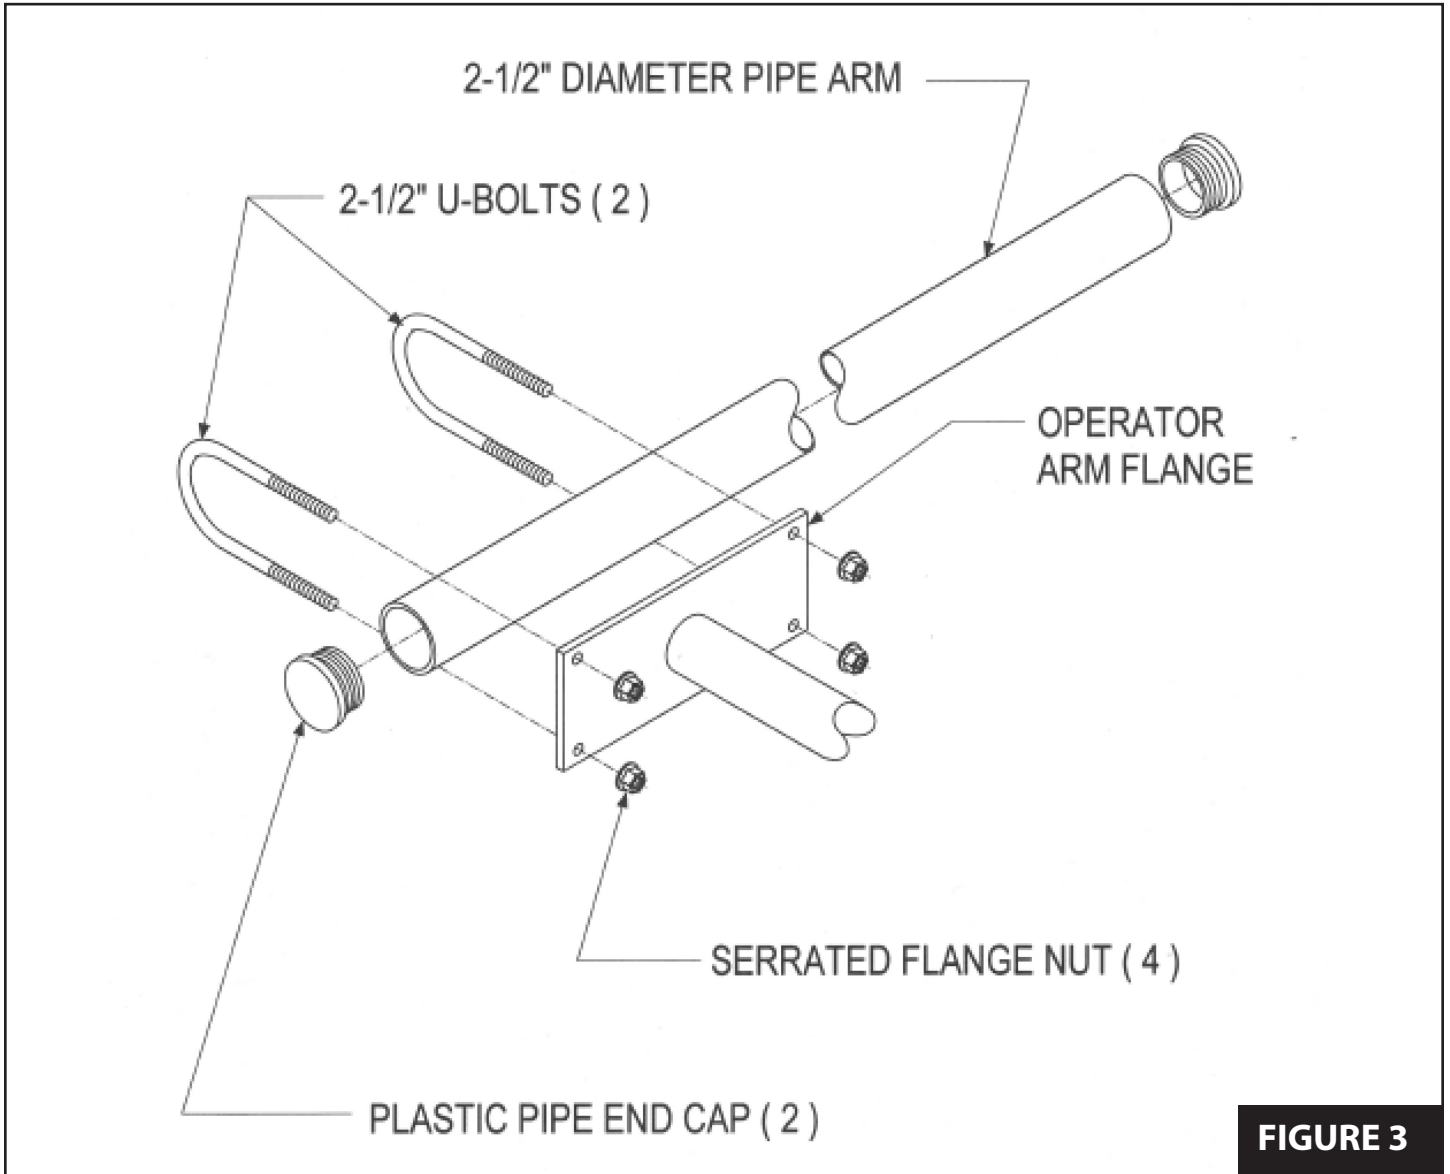

**FIGURE 1**
2. Remove side door of operator by reaching inside operator and unscrewing retaining knob at top of door. After removing retaining knob, push out top of door and lift away from operator. See **Figure 1** below.